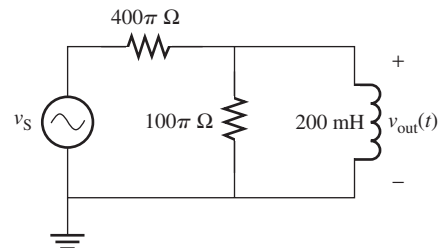

FIGURE P7.28 Circuit for Problem 7.28.
7.28 (A)* What kind of filter is shown in Figure P7.28? Determine its transfer function.